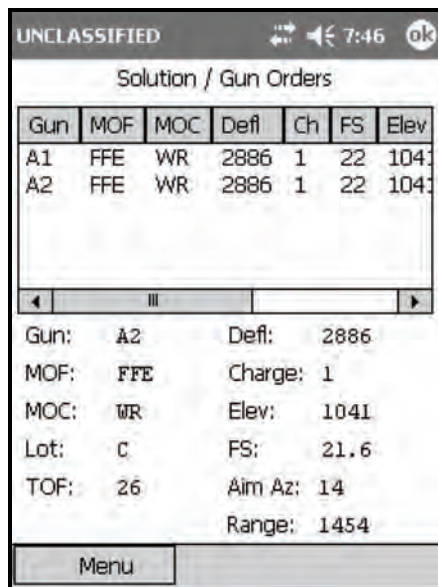

Figure 18-84. Immediate Smoke: Solution/Gun Orders screen.
2. The default number of guns that are included is two, A1 and A2 (Figure 18-84). This may be scaled up or down depending on the target description. The number of guns to be included in the mission may be changed from the Gun Select screen.